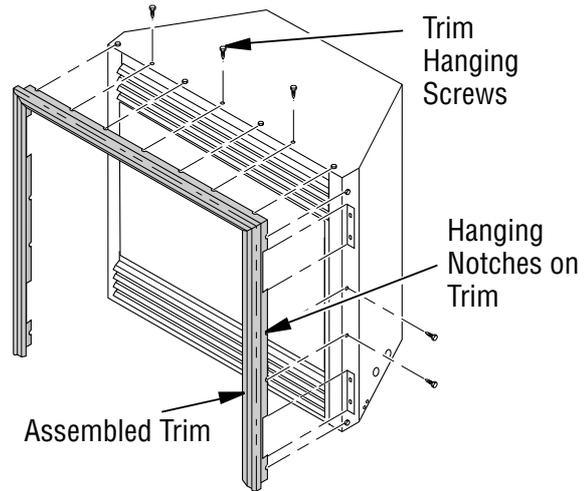

Figure 7 - Attaching Perimeter Trim to Fireplace
8. Tighten trim hanging screws (#10 x 6.25 shoulder) into holes in cabinets. Place the assembled trim onto fireplace cabinet. Align hanging notches on trim with hanging screws on side of fireplace (see **Figure 7**). Push trim firmly into place, sliding hanging notches over hanging screws.
9. Install trim after final finishing and/or painting of wall (see **Figure 7, Page 10**).